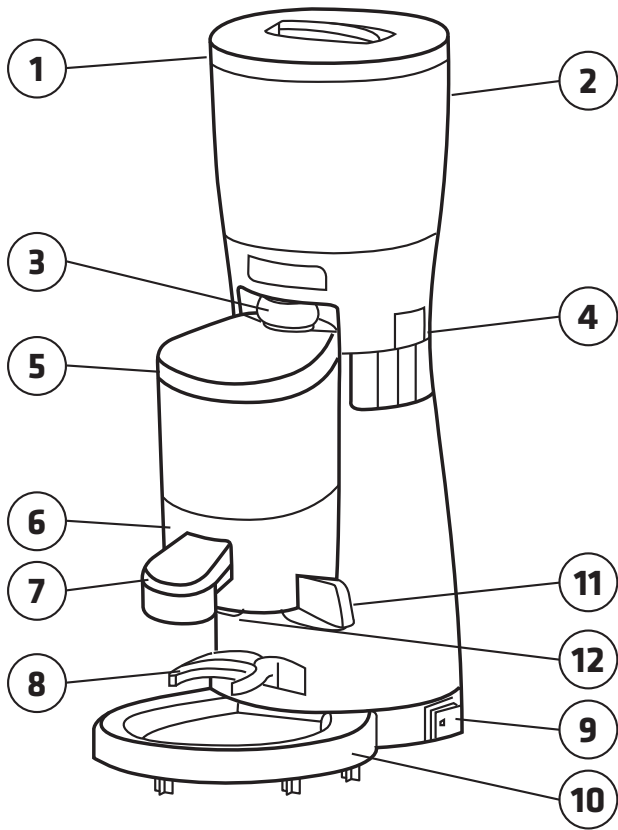

Fig. 1a
##### Legend (Fig. 1a)
- Place the filter holder in the filter holder fork (Fig. 1-8), pull the dosing lever (Fig. 1a-11) firmly towards you and release, repeating the action for each dose of coffee required.
- Level out the coffee contained in the filter, position the filter holder under the tamper (Fig. 1a-7) and raise gently to tamp the coffee;